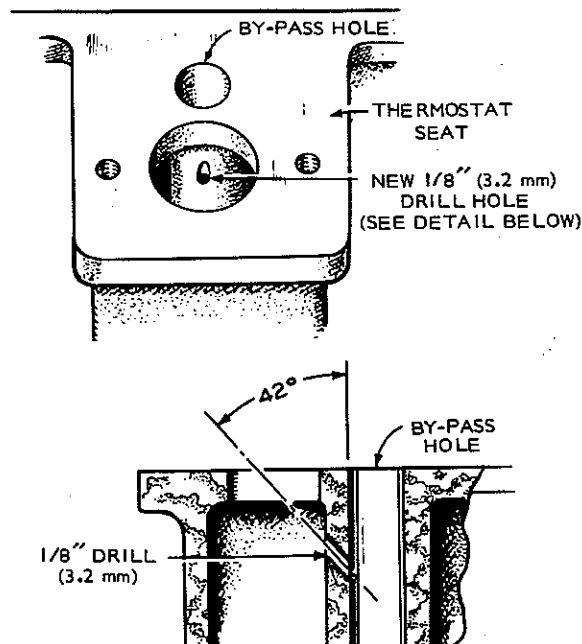

FIGURE 6-37. DRILLING FOR HIGH WATER TEMPERATURE SWITCH
18. Drill and tap two holes in rear of cylinder head, Figure 6-37. Use a #21 drill and 10-32 tap. Mount new thermostat switch using 10-32 screws furnished in kit.
12. MDJC Spec A through C and MJC Spec A through D; drill and tap 2 holes in rear of cylinder head, Figure 6-37. Use a #21 drill and 10-32 tap. Mount new thermostat switch using the 10-32 screws furnished.